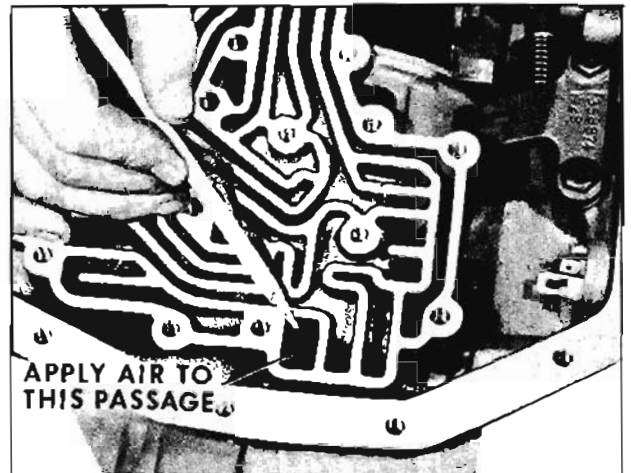

Fig. 6-296 Reverse Clutch Apply Passage
7. Place transmission in a horizontal position and remove reverse clutch piston with compressed air. As air is applied to the rear surface of the piston, it will pop out far enough so it can be removed. Insert air nozzle to rear of case as shown in Fig. 6-296.